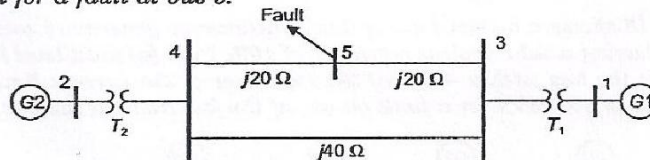

Fig. 8.16: Power system network of Example 8.15.
**Example 8.15:** Fig. 8.16 shows a power system network. Each of the alternators G1 and G2 is rated at 125 MVA, 11 KV and has a subtransient reactance of 0.21 pu. Each of the transformers is rated at 125 MVA, 11/132 KV and has a leakage reactance of 0.06 pu. Find (a) fault MVA and (b) fault current for a fault at bus 5.